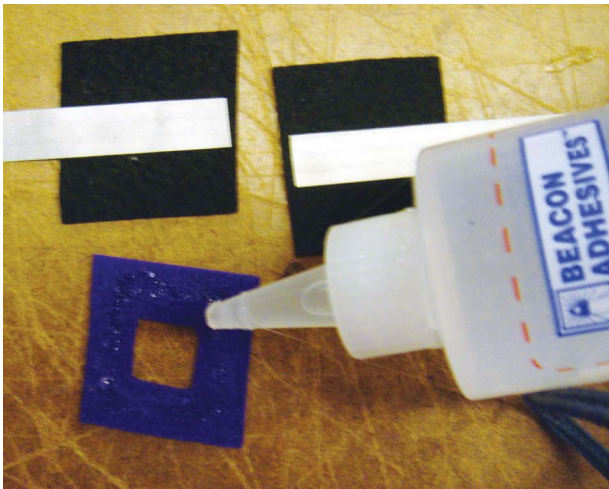

FIGURE 10.3: Apply glue to the thick felt or sponge that goes in between the two pieces of conductive material.
3. Glue the piece from Step 2 in between the two pieces from Step 1 (see the top-right image in Figure 10.2). Start by gluing the thick felt or sponge piece on top of one of pieces of the conductive material (see Figures 10.3 and 10.4). Then glue the second piece from Step 1 on top of the thick felt or sponge piece from Step 2. The finished switch is shown in the bottom-right image in Figure 10.2. The two strips of conductive fabric should face each other but not touch each other unless you press down on the switch.